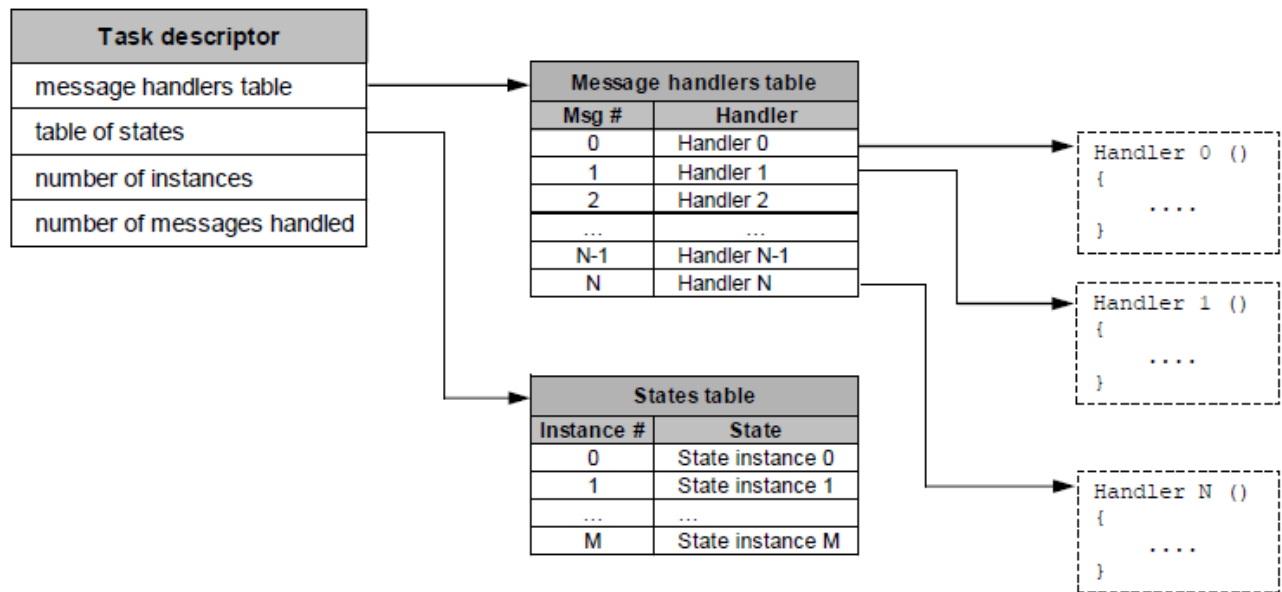

Figure 6. Task Descriptor Construction
- Its task descriptor, which is a structure as shown in the "Task Descriptor Construction" figure (Figure 6) containing all the information about the task: